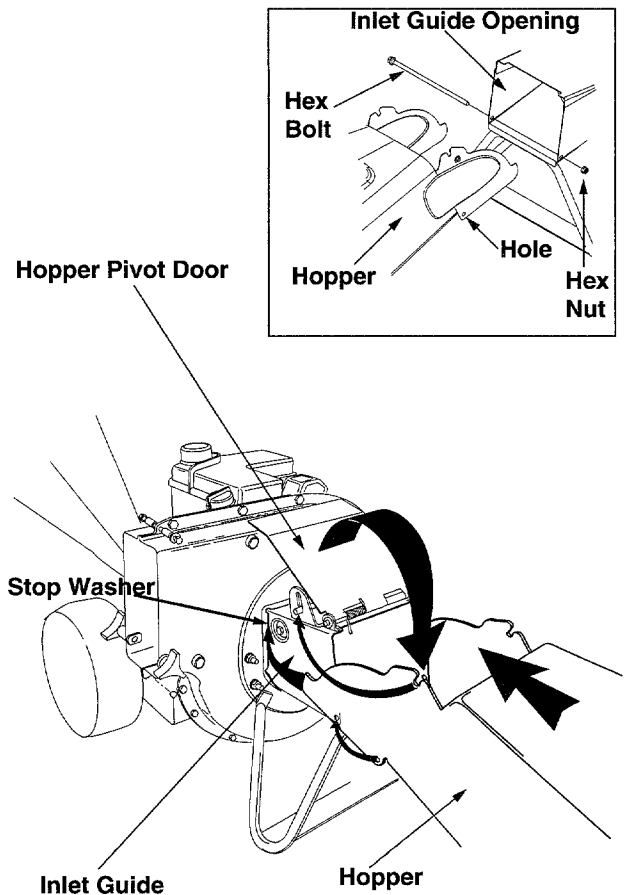

Figure 4
- Place the hopper assembly on the ground and hold it in the position shown in step 1 in figure 4.
- Holding the hopper, push hopper pivot door down inside the hopper. See figure 4.
- Slide the hopper assembly towards the chipper-shredder housing so that the upper guide on the hopper assembly slides **under** the stop washer on each side of the inlet guide. See figure 4.
- Insert the hex bolt (that you earlier removed) from the left through the hole on the hopper and the inlet guide. Insert the hex nut onto the bolt from the other side. See figure 4 inset.